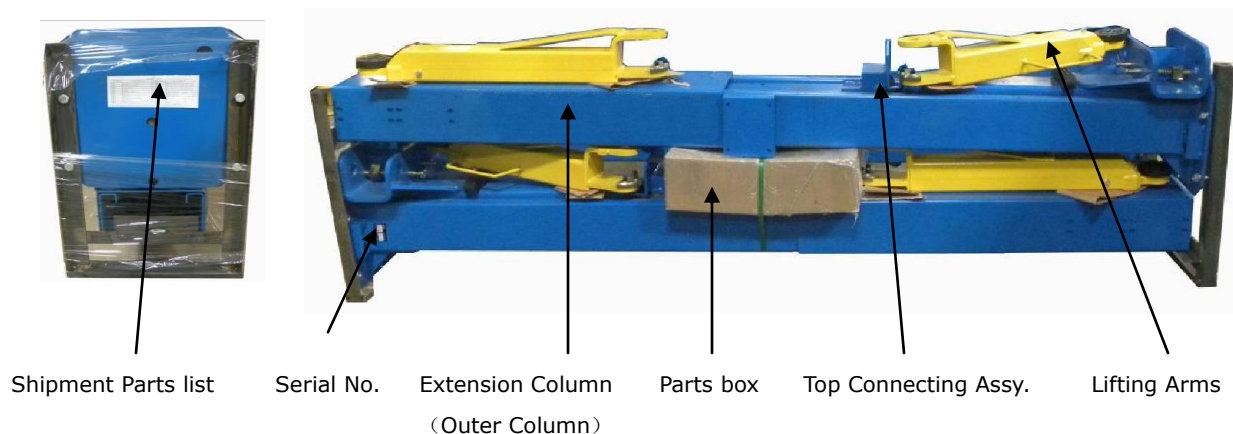

Fig. 7
2. Move aside the lift with fork lift or hoist, and open the outer packing carefully (See Fig. 7).